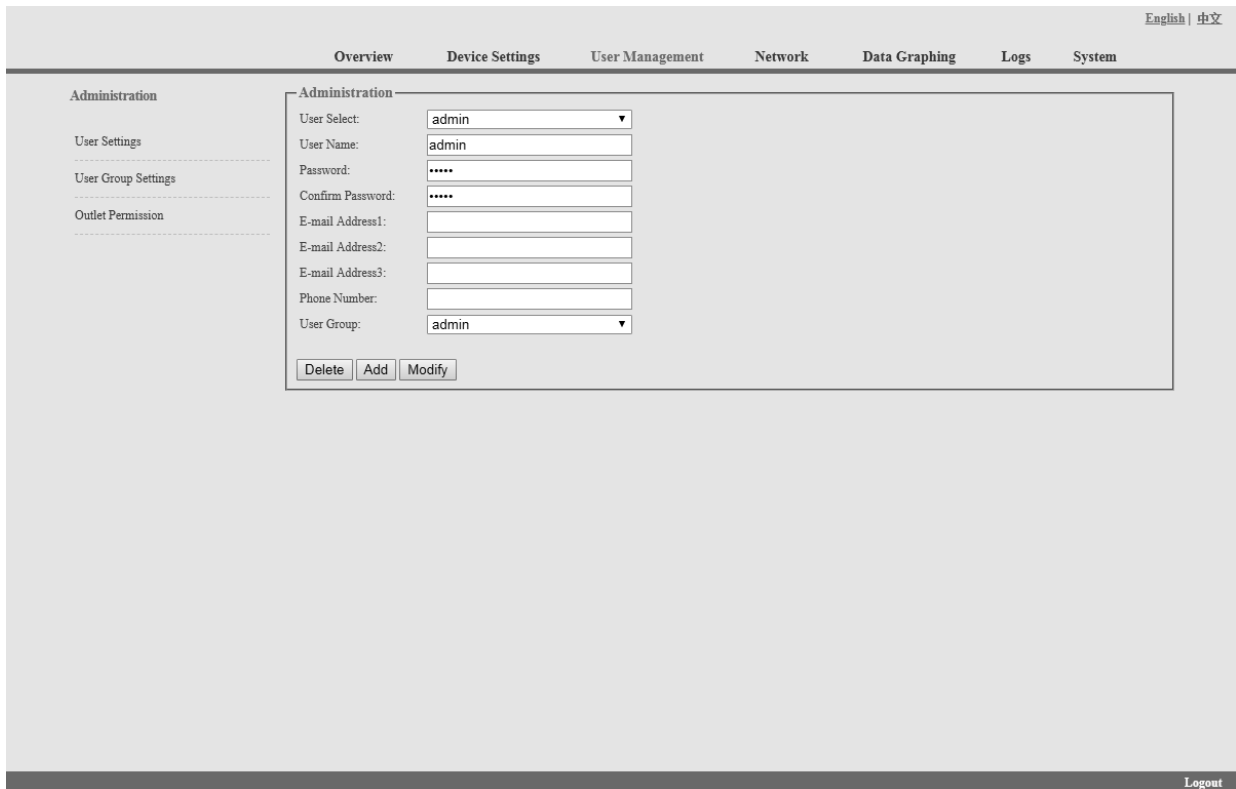

Figure 1-4
**3.2.1.3. User Management: Click the User Management form the navigation bar as Figure 1-4 to manage the user, user group and user access rights**
- A. User Settings: Click the User settings from the User Management menu as figure 1-4